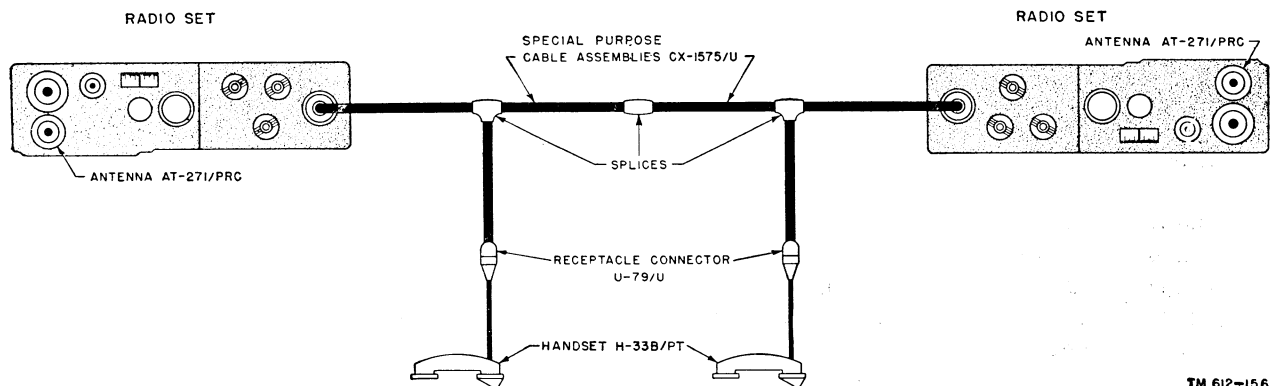

Figure 16. Relay operation, connections.
a. Attach the connectors on the ends of the relay cable to the **AUDIO** connectors on the two radio sets which are being used as the relay station (fig. 16). Attach two handsets to the connectors which are spliced to the relay cable.